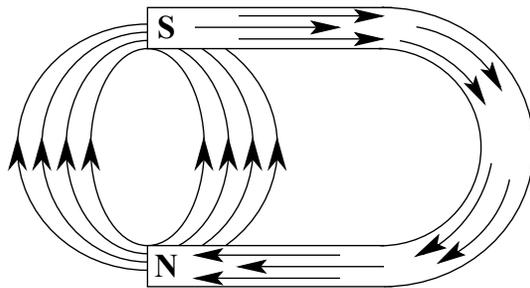

Figure 9-1
The operation of TCM Aircraft Magnetos is based on the properties of the permanent magnet. A permanent magnet has a magnetic field consisting of many individual paths of invisible magnetic flux commonly known as "lines" of flux. Each "line" of flux extends from the north pole through the intervening air space to the south pole, thereby forming a closed loop as indicated in Figure 9-1.
The presence of the lines of flux can be shown by placing a magnet under a piece of paper on which iron filings are sprinkled. The iron filings will arrange themselves in definite positions along the lines of flux indicated in Figure 9-1, which comprise the magnetic field.
The lines of flux have the characteristic of repelling one another. Consequently, they will spread over a considerable portion of the air space between the poles as represented graphically in Figure 9-1.
**Magnets used in the Aircraft Magneto** - The properties of the common horseshoe magnet are present in the rotating magnet of TCM Aircraft Magnetos. An illustration of a four-pole rotating magnet is shown in Figure 9-7. The lines of flux of the rotating magnet, when not installed in the magneto, pass from a north pole through the air space to a south pole as indicated. This closely resembles the magnetic field of the horseshoe magnet shown in Figure 9-1.